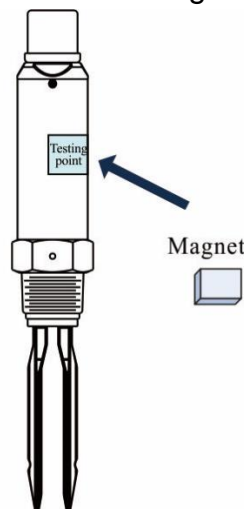

Figure 3 Magnetic Test Diagram
TF280-N/TF280-P fork sensing spot is shown as Figure 3 below. Considering testing medium is water (S.G.=1 g/cm3), sensing spot is at the fillister about 23mm from the tip. If testing medium has S.G. lower than 1g/cm3, sensing spot would be above the fillister. In contrast, sensing spot will be below the fillister.
1. Opening of the two fork blades is to be as the flow direction. ( Figure 3)